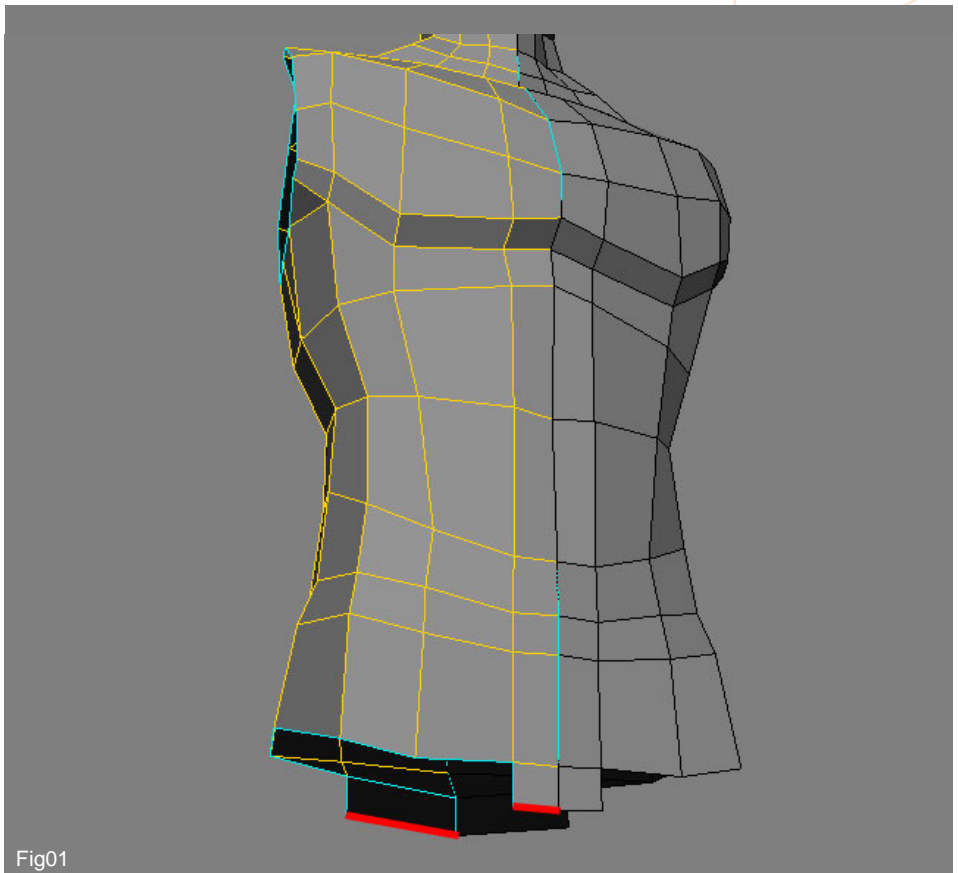

Fig01
1. Open the file with the torso mesh. Select the two edges marked in red in Fig 01, and use the Ctrl + D to duplicate/extrude them. Now move them downwards, as shown in Fig 01. Make sure that the torso mesh is still divided into two halves, one of which is still a clone of the other (so you can work only on one half of the mesh, seeing the result on both of the halves).